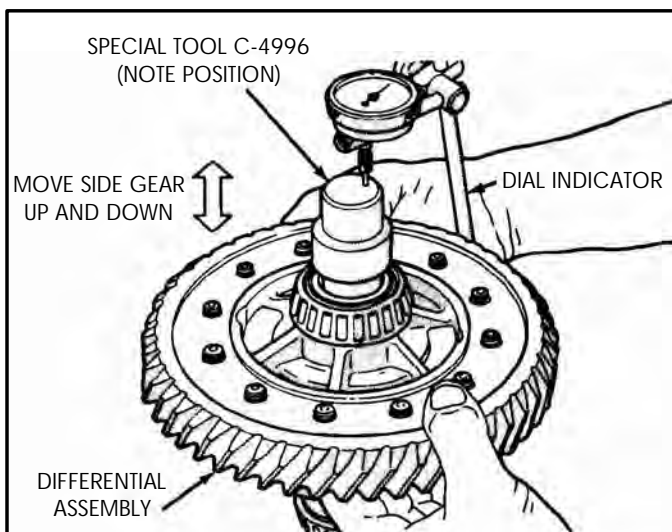

Figure 155
10. The other side gear end play should be checked using same procedure, as shown in Figure 155.